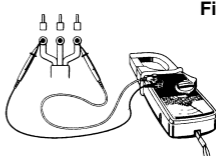

Fig. 5
- (2) Set the range switch to the highest Vac or Vdc range position.
- (3) Connect the test leads to the circuit under test (Fig.5) and read the voltage directly on the scale. For Vdc measurements the red test lead should be connected to the more positive potential in order that the pointer deflects upscale.
- (4) When the reading is lower than 300 Vac, set the range switch to the next lower range position. For maximum accuracy select the lowest range possible without overranging the meter.